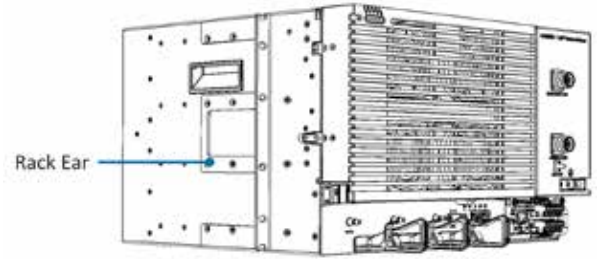

Figure 1. Required Position of MRU Rack Ears
- Step 1:** Remove each rack ear and reassemble according to position shown in Figure 1.